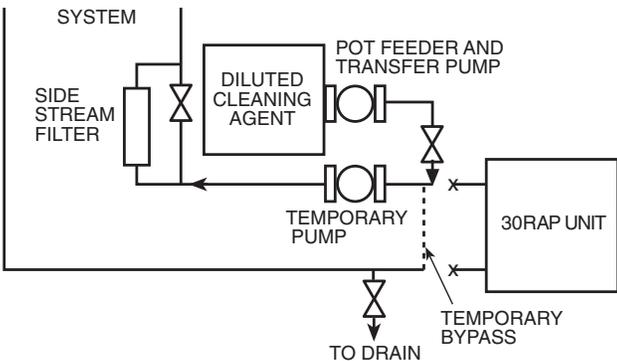

Fig. 21 — Cleaning Using a Side Stream Filter
- c. A side stream filter is recommended (see Fig. 21) during the cleaning process. Filter side flow rate should be enough to filter the entire water volume